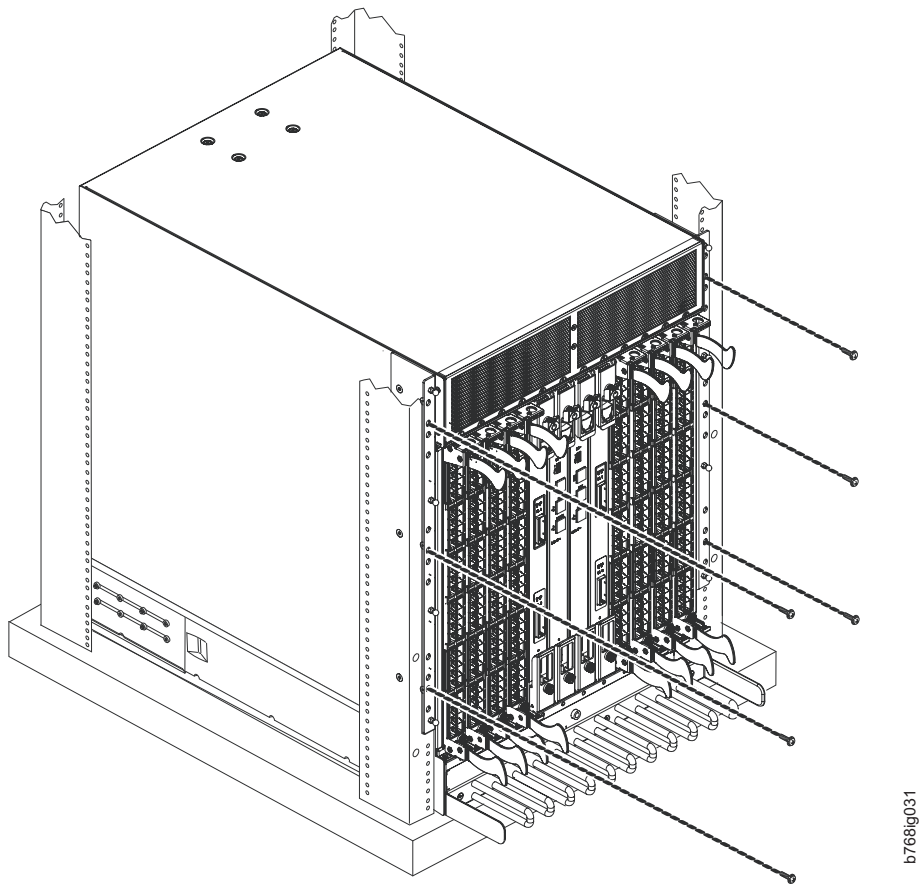

Figure 9. Attaching the port side of the chassis to the cabinet rails
20. Fasten the port side of the chassis to the cabinet rails. Use three 10–32 x 5/8-in. Phillips panhead screws with washers **C** on each side to attach to the clip nuts (**D**) or retainer nuts (**F**) installed on the rails earlier. Tighten the screws to a torque of 37 cm·kg (32 in·lb). See Figure 9 for the approximate location of the screws.
5. Remove the three 10-32 x 5/8 in. Phillips panhead screws with washers on each side. See Figure 9 on page 24 for the location of the screws.